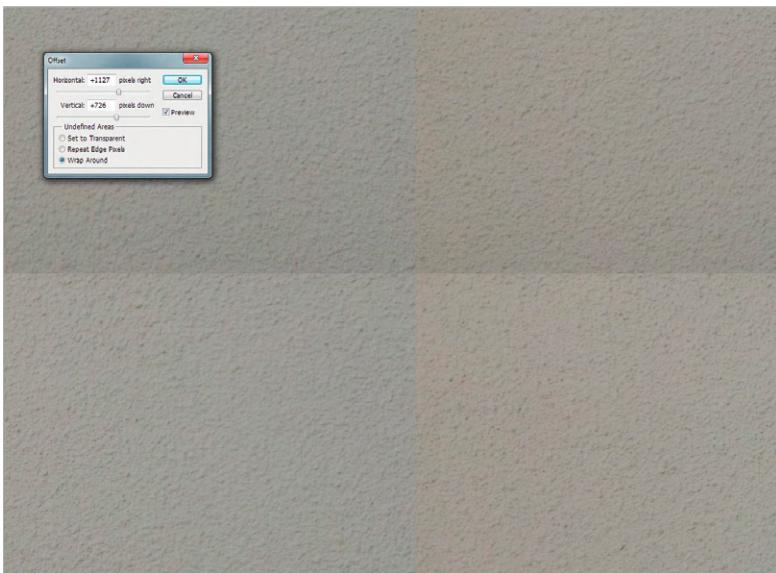

FIG B.4 Using the Offset Filter to bring the seams into the middle of the image.
Step 4: Work in Stucco_Color.jpg and select Filter>Other>Offset. Change the Horizontal and Vertical sliders to values that allow you to see the seams somewhere in the middle of the image (Figure B.4). Hit OK.